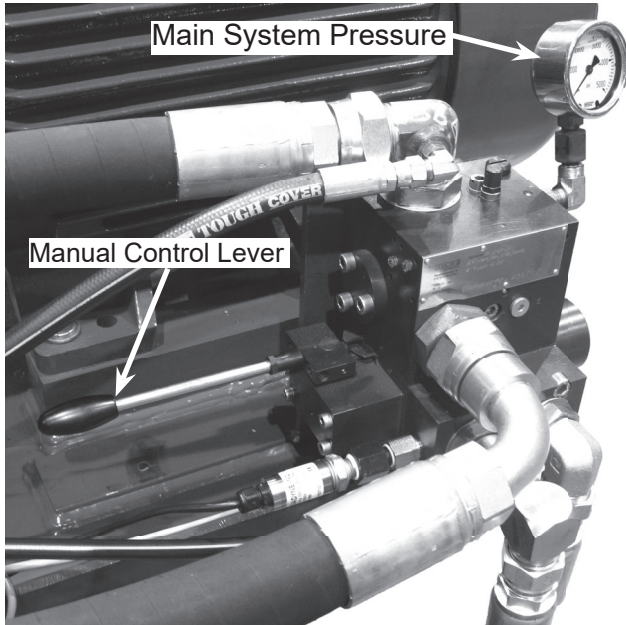

Figure 18 - Directional Valve
Directional Control Valve is for controlling the direction of the plunger (see Manual Operation Pg. 19). The Main System Pressure gauge is located on the Directional Control Valve (see Figure 18). The Manual control Lever can also be used to relieve pressure in the plunger cylinder when the HPU is shut down.
3. Operate lever on directional valve to operate plunger (see Figure 18 - Pg. 16).